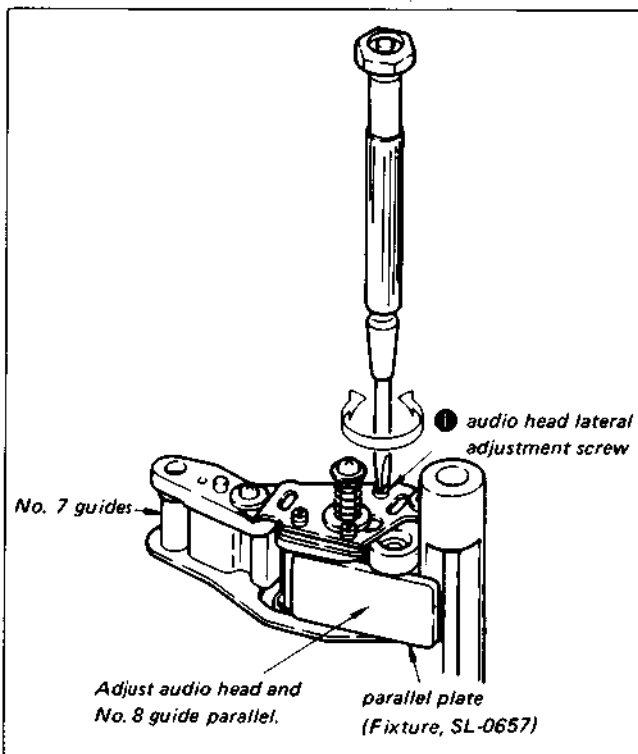

Fig. 4-8
- 1) Position the parallel plate (Fixture, SL-0657) at shown in Fig. 4-8, and turn audio head lateral adjustment screw ① to adjust the audio head vertically.